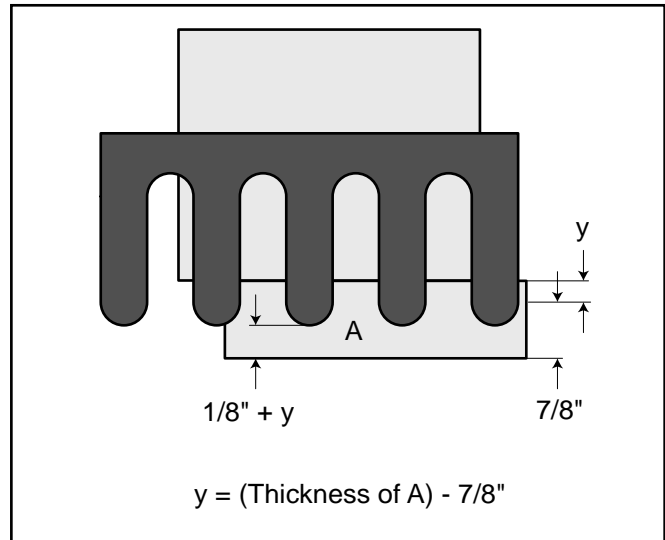

Figure 13. Correct template adjustment for stock thicker than $\frac{7}{8}$ ".
3. For side pieces thicker than $\frac{7}{8}$ ", add $\frac{1}{8}$ " to the amount that the board exceeds $\frac{7}{8}$ ". Then, set the front edge of the template fingers back from the edge by that sum. See **Figure 13 and 14**.